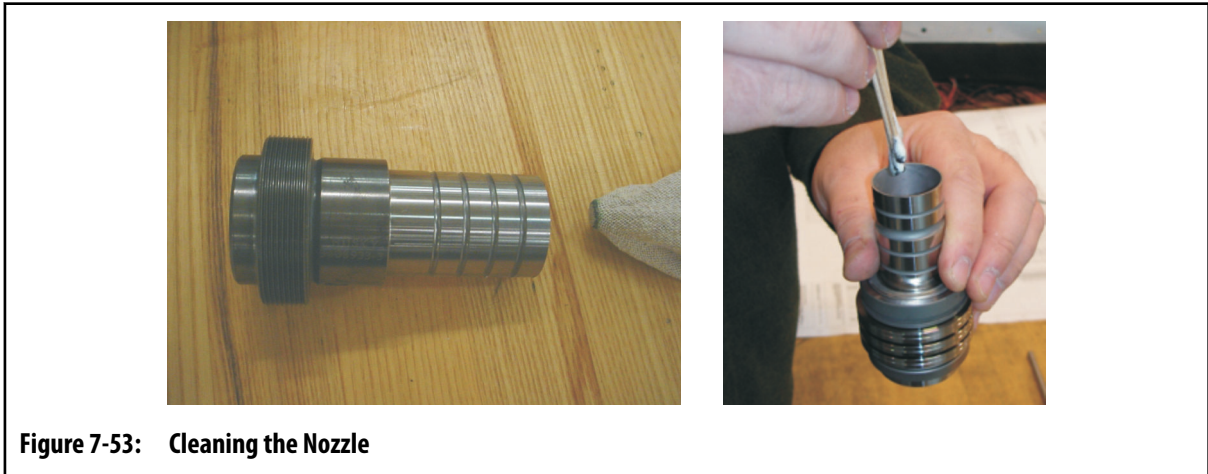

Figure 7-53: Cleaning the Nozzle
7. When lapping is completed, clean the lapping residue out of nozzle and valve stem using a rag, cotton swab and isopropyl alcohol or mold cleaner. Refer to Figure 7-53.